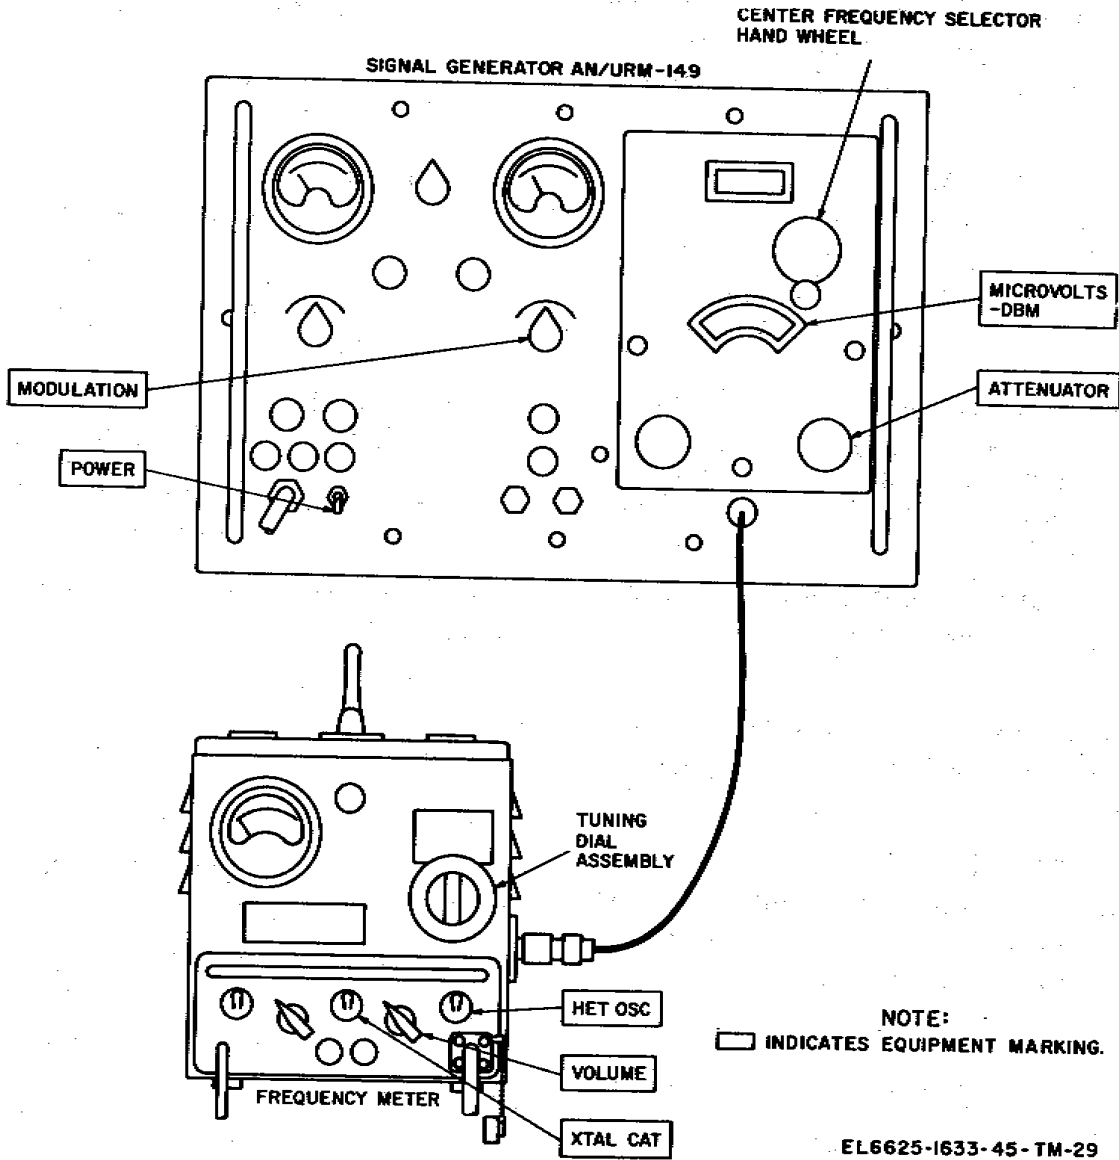

Figure 5-1. Rf output frequency, test setup diagram.
a. Connect the equipment as shown in figure 5-1.
- (1) POWER switch: ON
- (2) IND switch: BEAT IND
- (3) XTAL CAL: ON
- (4) VOLUME control: Max ccw
- (5) HET Osc: ON